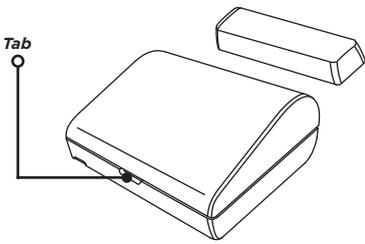

Figure 1: 1106-WINT Wireless Universal Transmitter
1. Open the 1106-WINT by inserting a 1/4" flat head screwdriver in the tab. See Figure 1.
1. Open the transmitter housing to expose the inside of the 1106-WINT. See Figure 1.